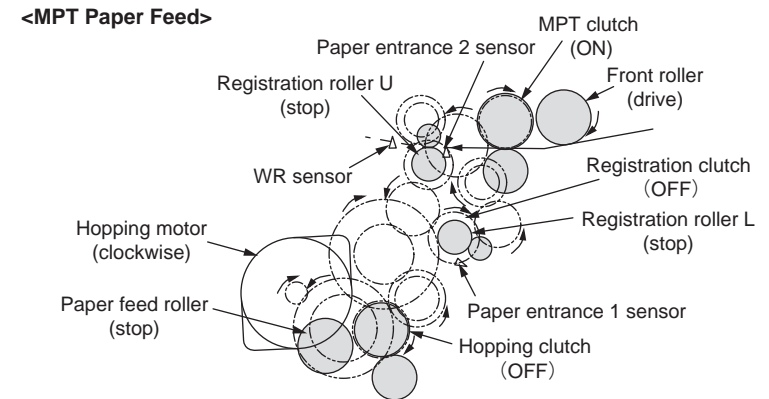

Figure 2-3
1. As illustrated in Figure 2-3, when the MPT clutch is ON, the hopping motor rotates (counterclockwise), transporting the paper until the paper entrance 2 sensor comes ON. (The hopping motor runs counterclockwise, and the front roller is driven when the MTP clutch comes ON.)